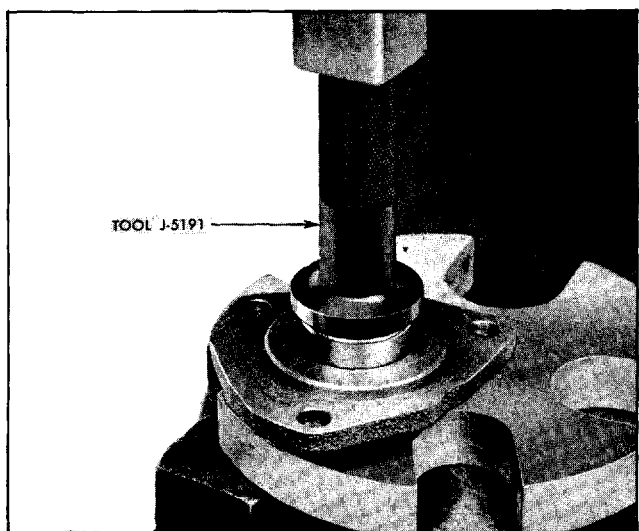

Fig. 9-40 Installing Bearing in End Cover
3. Press new bearing into end cover using tool J-5191 (Fig. 9-40). (End with trademark should be up.)